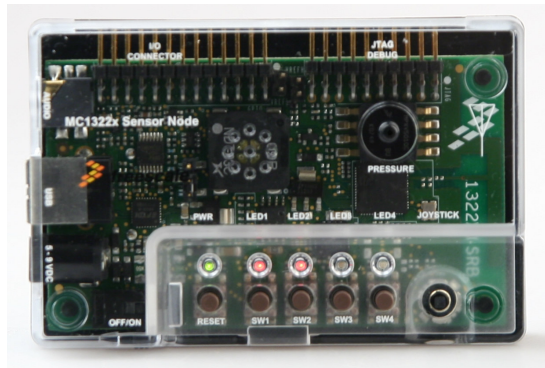

Figure 6 1322x Sensor Node (ZigBee coordinator)
ZigBee communication is only optional – it is not implemented in every Power Meter Demo. There is a 2.4GHz RF 1322x module inside the meter. ZigBee module and the Power Meter are connected through the I²C. For joining the Power Meter to a ZigBee network, you will need another 1322x module – this will be like a ZigBee coordinator (see Figure 6). Thanks to it, the Power Meter can easily become part of the Smart Grid.
4. Push the button SW1 on the coordinator – it looks up all ZigBee equipment connected to the ZigBee network at this time. Two red LEDs on the coordinator will be lighted then (see Figure 6).